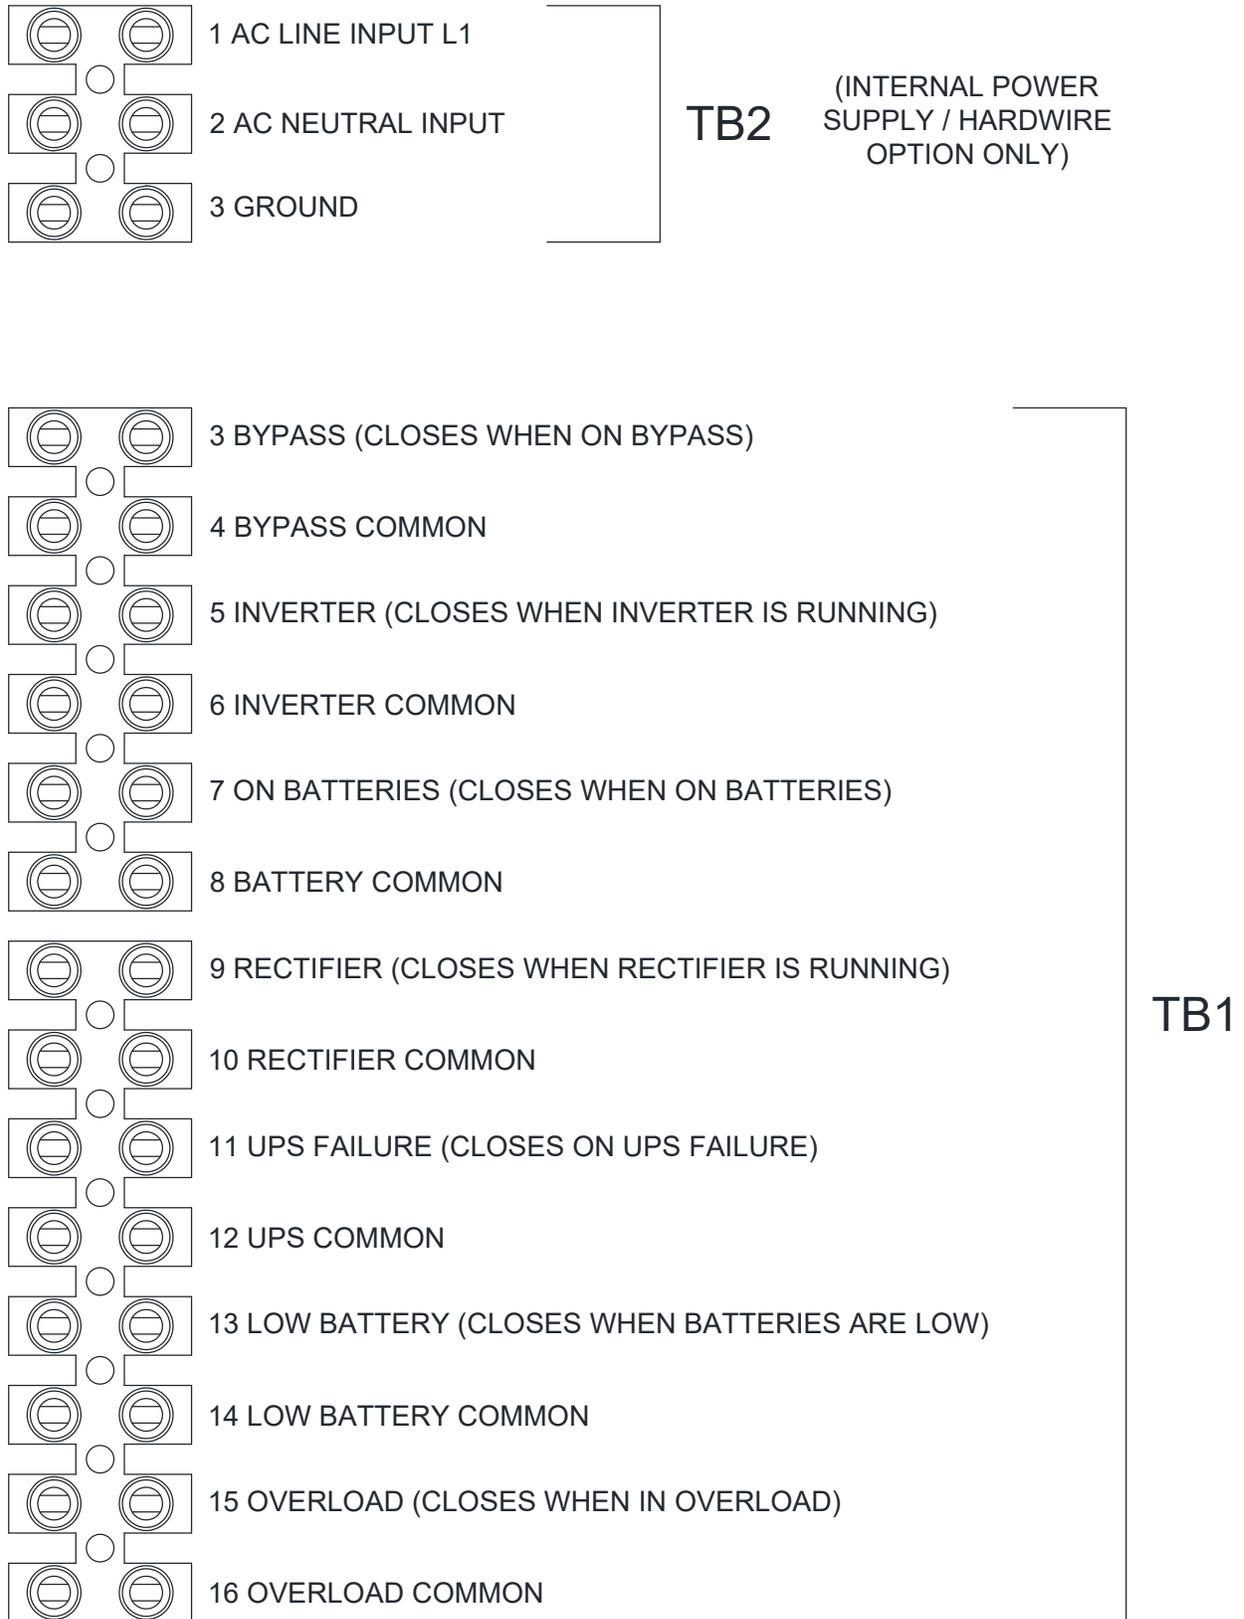

FIGURE 2.0
5. Referring to Figure 2.0, 3.0, and the corresponding UPS wiring diagram, connect the seven (7) pairs of twisted wire from the RSAP to the customer accessible alarm contact terminal bar in the UPS module. (Refer to the UPS' owner's manual for location)